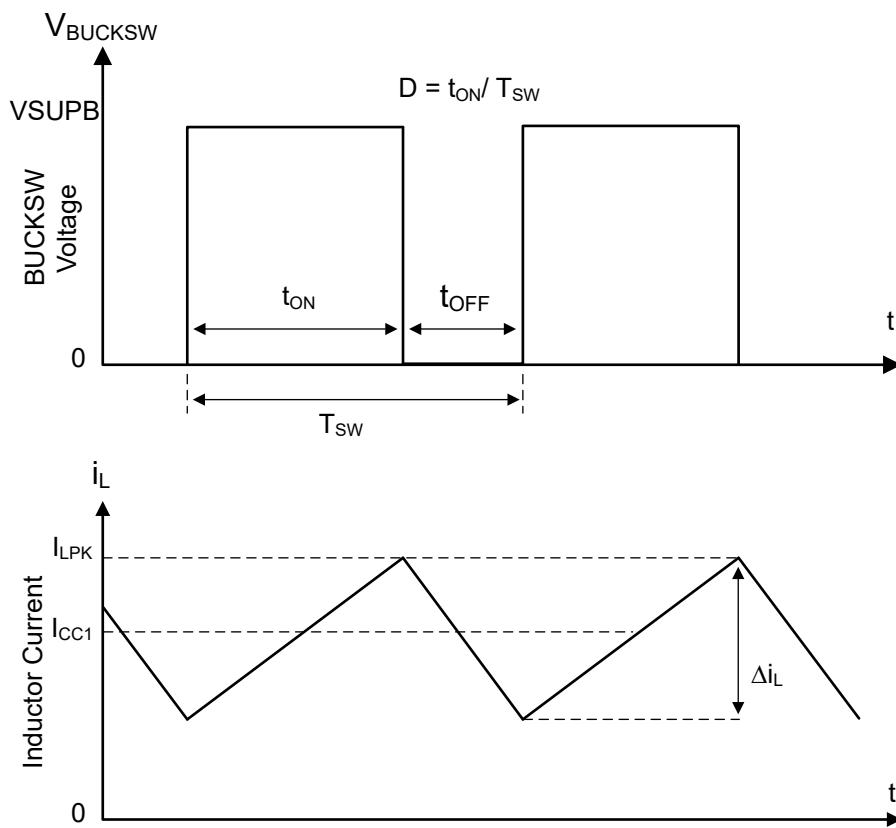

Figure 8-5. Switching node waveform in the Continuous Current Mode (CCM)
The buck regulator integrated in TCAN241x-Q1 is a step-down synchronous buck converter with integrated high-side (HS) and low-side (LS) switches. The regulator supplies a regulated output voltage by turning on the high-side and low-side NMOS switches with controlled duty cycle. Refer to Figure 8-5. During high-side switch ON time, the BUCKSW pin voltage swings up to approximately $VSUPB$, and the inductor current, i_L , increases with linear slope $(VSUPB - VCC1) / L$. When the high-side switch is turned off by the control logic, the low-side switch is turned on after an anti-shoot-through dead time (t_D). Inductor current discharges through the low-side switch with a slope of $-VCC1/L$. The control parameter of a buck converter is defined as Duty Cycle $D = t_{ON} / T_{SW}$, where t_{ON} is the high-side switch ON time and T_{SW} is the switching period. The converter control loop maintains a constant output voltage by adjusting the duty cycle D . In a buck converter, where losses are ignored, D is proportional to the output voltage and inversely proportional to the input voltage: $D = VCC1/VSUPB$.